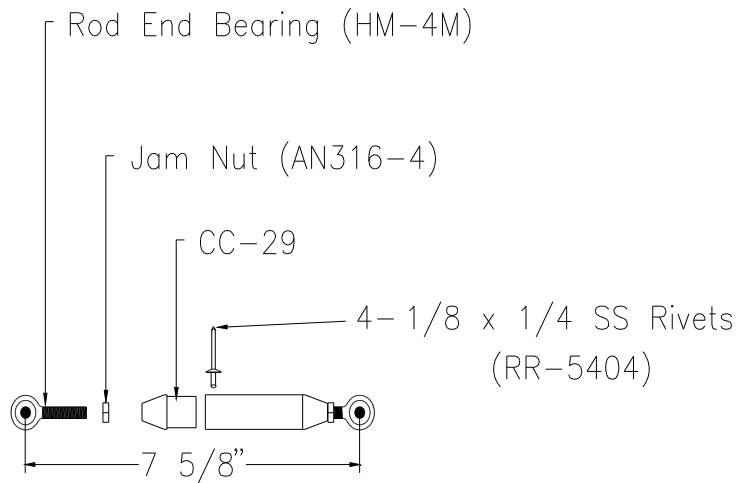

Figure 10.14.2
- 8) Make a push-pull tube (CC-82) from 3/4" x .035 tubing (CC-51) as in figure 10.14.2.